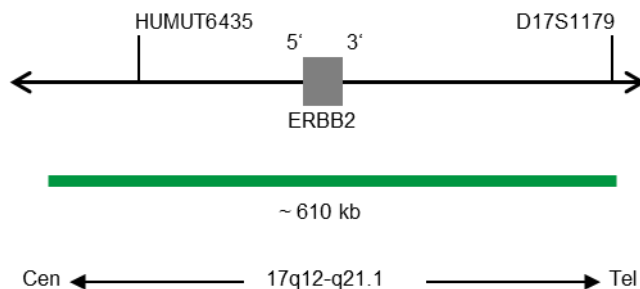

Fig. 1: SPEC ERBB2 Probe map (not to scale)
- ZyGreen (excitation 503 nm/emission 528 nm) labeled polynucleotides (~5.0 ng/μl), which target sequences mapping in 17q12-q21.1\* (chr17:37,572,531-38,181,308) harboring the ERBB2 gene region (see Fig. 1).